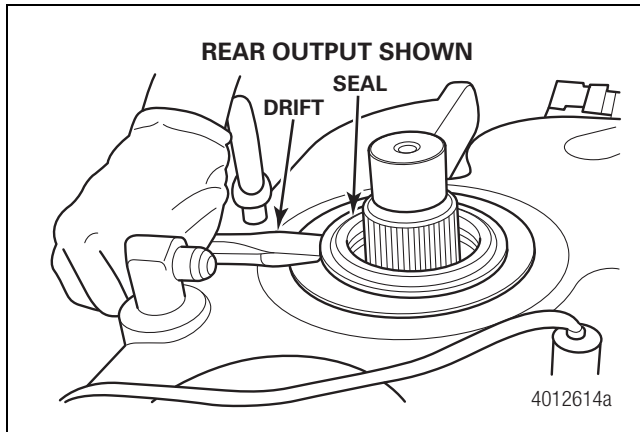

Figure 4
- Use a drift to remove the output shaft seal from the transfer case half. Figure 4.